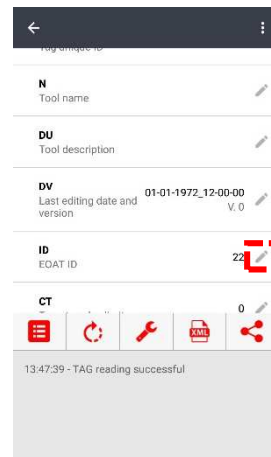
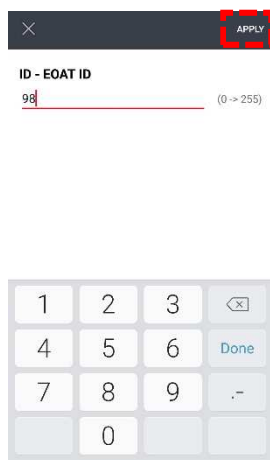

Figure 6
Figure 7
- Once the expert mode has been enabled, all the parameters can be overwritten by clicking on the pen icon (example: the EOAT ID number is editable), as shown in *Figure 6*. To confirm the change and to write the new parameters into the tag, the 'APPLY' button must be pressed, in the upper right part of the screen (*Figure 7*), holding the TAG in the position of reading action. When the update is completed, the application returns to the main screen. To be sure that the operation was performed successfully, please read again the same RBQC to check the new values of the parameters.